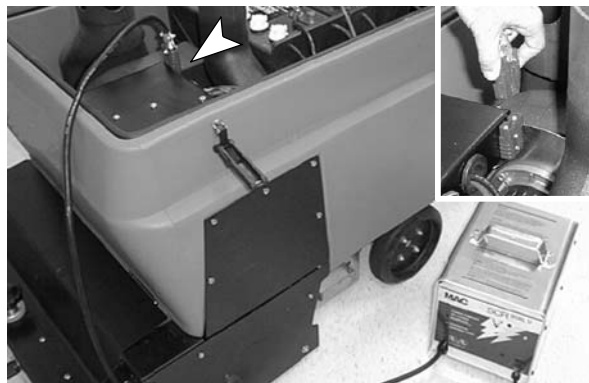

FIG. 29
6. Plug battery charger into machine's charging receptacle as shown (Figure 29).